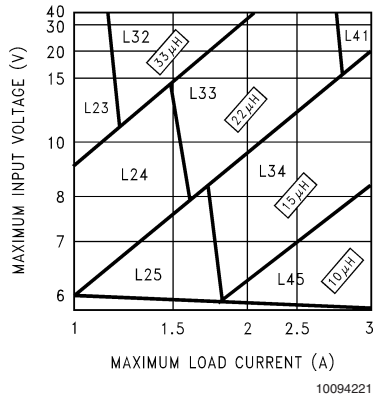
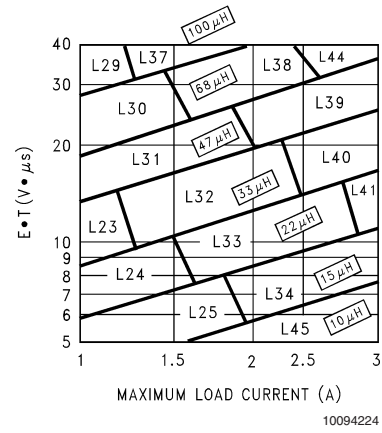

FIGURE 3. LM2670-3.3
FIGURE 6. LM2670-ADJ
Step 3: Determine the inductor required by using one of the four nomographs, *Figure 3* through *Figure 6*. Table 1 provides a specific manufacturer and part number for the inductor.
Step 5: Determine an input capacitor from Table 4 for fixed output voltage applications. Use Table 2 to find the specific capacitor type. For adjustable output circuits select a capacitor from Table 2 with a sufficient working voltage (WV) rating greater than $V_{in\ max}$, and an rms current rating greater than one-half the maximum load current (2 or more capacitors in parallel may be required).
Step 3: Use the nomograph for the 3.3V device, *Figure 3*. The intersection of the 16V horizontal line ($V_{in\ max}$) and the 2.5A vertical line ($I_{load\ max}$) indicates that L33, a 22 μH inductor, is required.
Step 3: To use the nomograph for the adjustable device, Figure 6, requires a calculation of the inductor Volt•microsecond constant (E•T expressed in V•µs) from the following formula:
Using Figure 6, the intersection of 27V•µs horizontally and the 2A vertical line (I_{load} max) indicates that L38, a 68µH inductor, should be used.
Important Note: When using the adjustable device in low voltage applications (less than 3V output), if the nomograph, Figure 6, selects an inductance of 22µH or less, Table 6 does not provide an output capacitor solution. With these conditions the number of output capacitors required for stable operation becomes impractical. It is recommended to use either a 33µH or 47µH inductor and the output capacitors from Table 6.